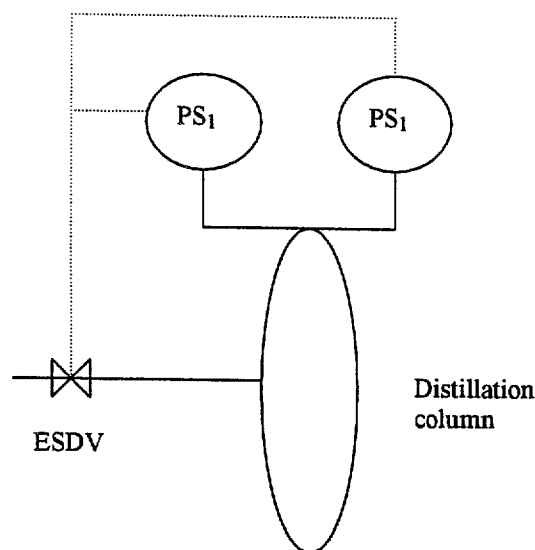

Figure 1. *Schematic representation of a distillation column protected by two pressure switches.*
- d) Figure 1 shows a process and instrumentation flow diagram for a distillation column protected by two pressure switches ( $PS_1$  and  $PS_2$ ) operating on an emergency shutdown valve (ESDV). Using the data below, calculate the total availability for the system assuming that the pressure switches respond on a 2002 voting system. [9]